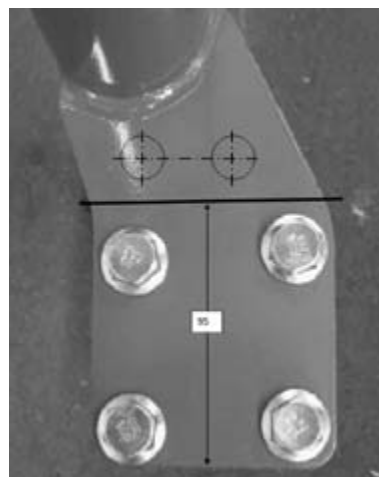

Fig 16: Separating cut line on the hood guard
2. Cut off the original fastening lugs. See the line in Fig 16 for the precise position of a separating cut.